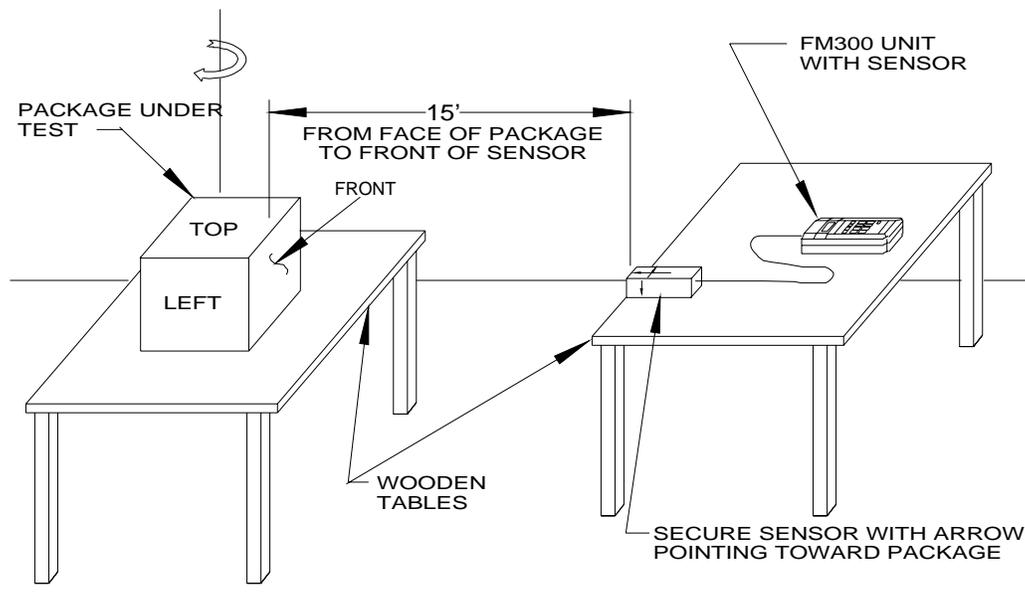

FIG 2 - STARTING POSITION
1. Set up two non-magnetic (e.g., wooden) tables of the same height in line with one another and spaced 15 feet apart as shown in Fig. 2.
2. Bring the package to be tested into the site. Place it on the table opposite the table containing the probe so that one of its sides is facing the FM300 probe and is 15 feet from the front edge of the probe (see Fig. 2).